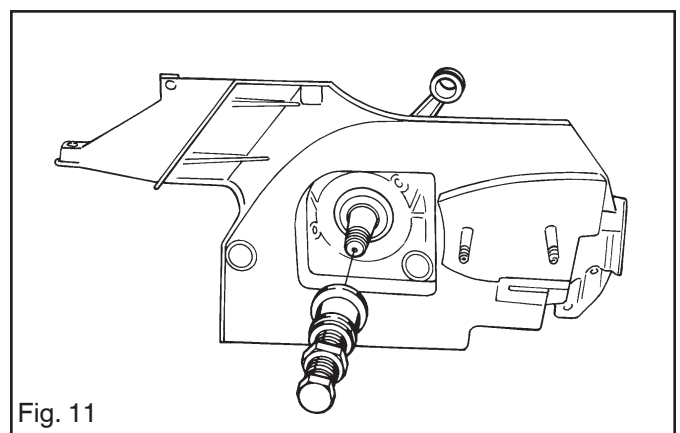

Fig. 11
3. Use tool (Refer to "3 Service tools" on page 8, Pos. 20) and pull the crankshaft into the crankcase half of the clutch side. See fig. 11. Pull until the crankcase shoulder mates with the bearing.